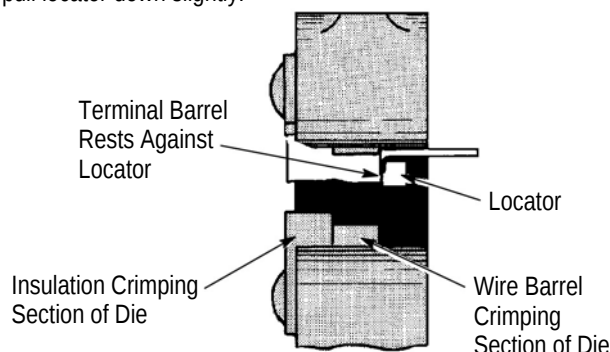

Figure 3
2. Place the terminal in the stationary die as shown in Figure 3.
Note that the dies and terminals are color-coded according to wire size for easy identification. See Figure 2. When the terminals are properly crimped in the correct dies, 1 dot or 2 dots (depending on wire size), will appear embossed on the top and bottom of the terminal. See Figure 3.